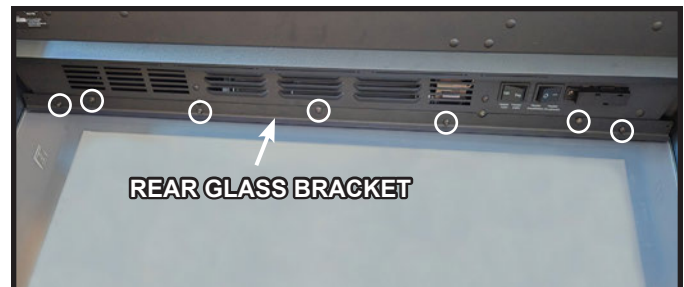

Figure 13 Rear Glass Bracket Screw Locations
8. While supporting the rear glass panel, remove the screws in the rear glass bracket at the top of the rear glass. See Figure 13.